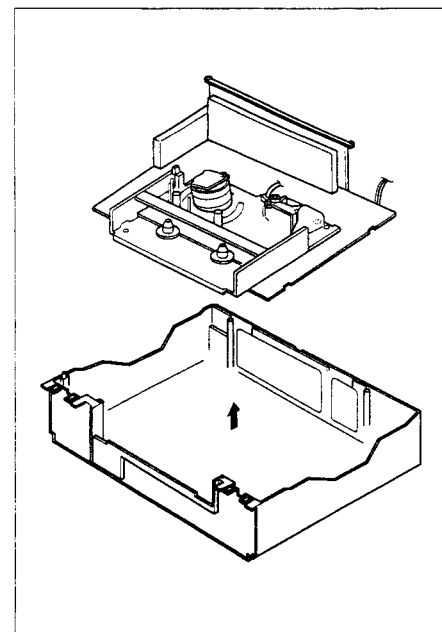

Fig. 1-4-2
- (5) While holding the edge of the Main board, and remove the Main board and Main deck assemblies together. At this stage be careful of the power cord and prongs of the jacks on the back side (See Fig. 1-4-2).